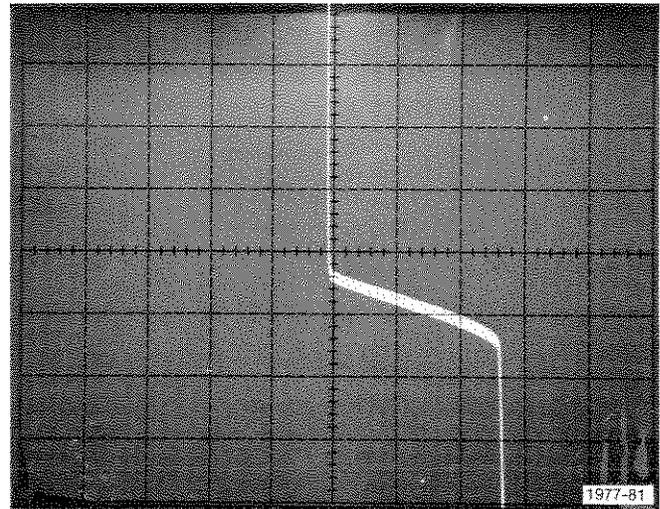

Fig. H-2. Typical gain in offset voltage display.
a. Turn the -SUPPLY control until the gain curve is displayed (see Fig. H-2).